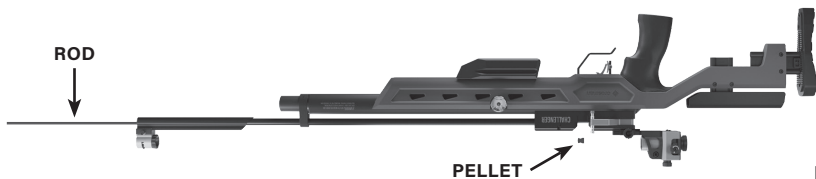

Fig. 8
2. Pull the side lever in the rearward position insert a clearing rod of the proper size into the barrel (start at the muzzle). The barrel could be damaged if the proper sized clearing rod is not used (Fig. 8).